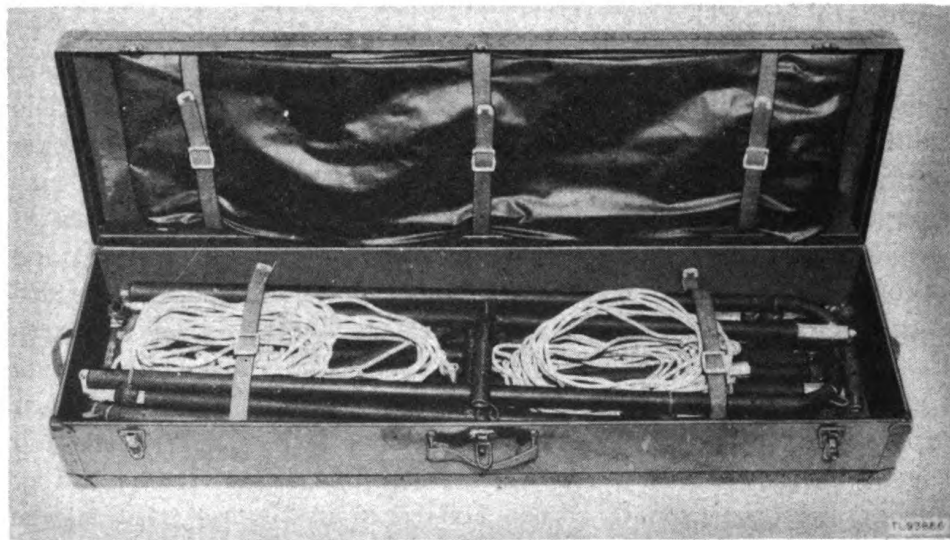

Figure 2.. Carrying case showing Screen PH-555/GF packed.
c. SCREEN CASE (fig. 2). The plywood carrying case is painted olive drab. The folded cloth screen is strapped in the lid of the case. The frame sections, guy ropes, and stakes are stowed in the bottom of the case. The case is 47 inches long, 9¾ inches wide, and 6½ inches high, and is equipped with carrying handles at each end and on the top.